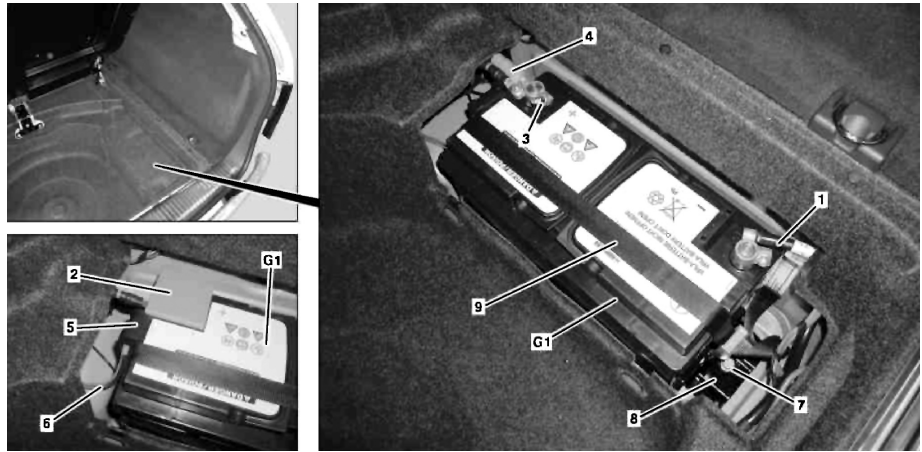

Fig. 2 Primary battery removal
6. Remove positive terminal cover (2), Fig. 2.
7. Loosen nut (3), and remove positive line (4) from battery (G1), Fig. 2.
8. Unclip cover (5), and detach bleed hose (6), Fig. 2.
9. Remove bolt (7) and bracket (8), Fig. 2.
10. Loosen retaining strap (9), and remove battery (G1) with supporting bracket from load compartment, Fig. 2.
4. Install bolt (7) and bracket (8), Fig. 2.
5. Attach bleed hose (6), and clip in cover (5), Fig. 2.
6. Install positive line to battery. Ensure that positive line (4) is seated firmly, otherwise positive terminal may be damaged, Fig. 2.